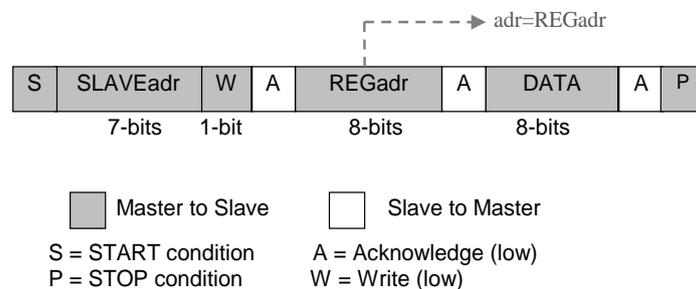
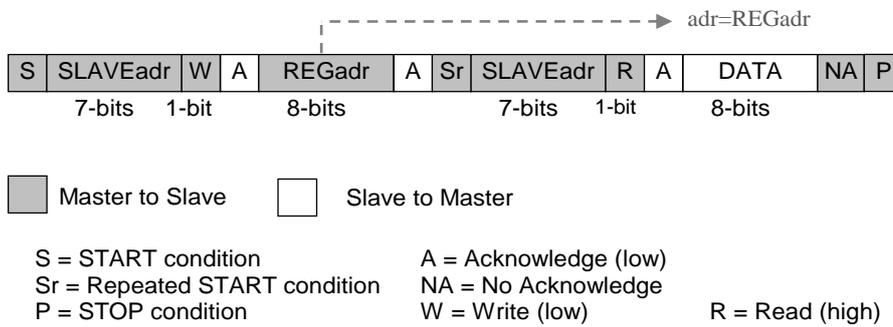

Figure 47. I²C Byte Write (SDA Line)
Figure 49. I²C Byte Read (SDA Line)
The I²C bus is monitored for a valid slave address whenever the interface is enabled. It responds immediately when it receives its own slave address. The acknowledge is done by pulling the SDA line low during the following clock cycle (white blocks marked with A in Figure 47 and Figure 49).
The protocol for a register write from master to slave consists of a START condition, a slave address with read/write bit, and the eight-bit register address followed by eight bits of data, terminated by a STOP condition. DA9292 responds to all bytes with acknowledge (A), see Figure 47.
When the host reads data from a register, it first has to write to DA9292 with the target register address and then read from DA9292 with a repeated START, or alternatively a second START, condition. After receiving the data, the host sends no acknowledge (NA) and terminates the transmission with a STOP condition, see Figure 49.